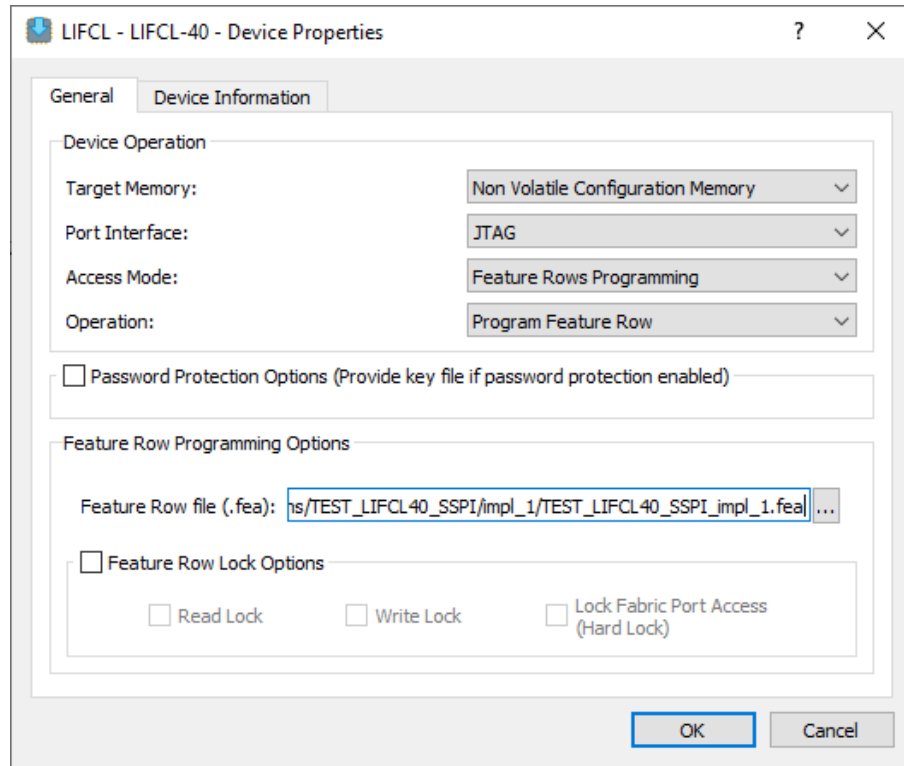

Figure 2.5. Device Properties
- Using the Lattice Radiant programmer, user can now program the feature row as shown in Figure 2.5. The updated *.fea* file should now reflect within the feature row once programming operation is successful. User can double-check if the feature row has been updated appropriately using the *Read Feature Row* operation. Click **OK**.